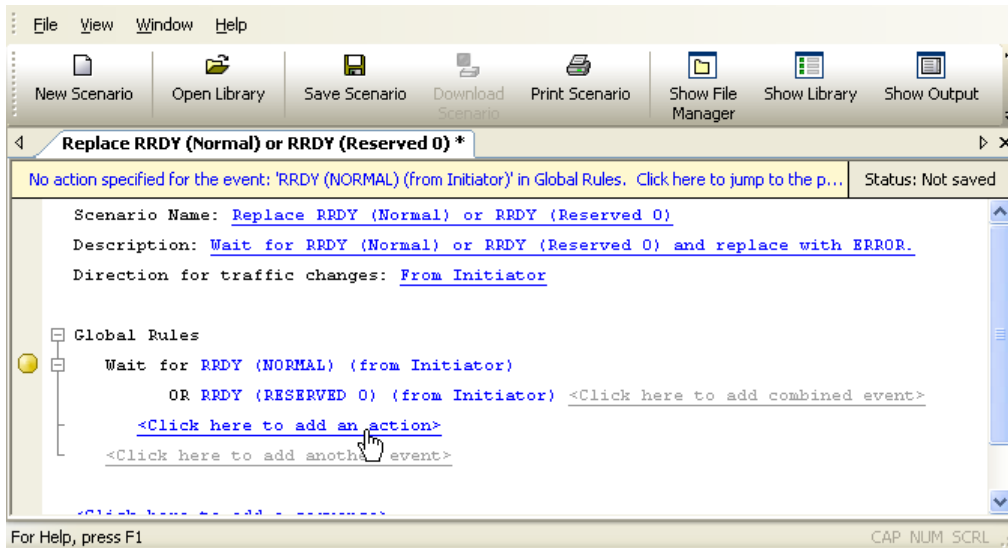

Figure 5.18 Example 3: Entering the Action
- Step 7** In the Global Rules area, click on the prompt to **add an action** (Figure 5.18).